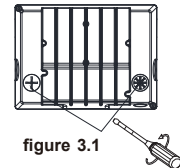

figure 3.1
- Step 1: Open the metal plug and plastic plug counter (figure 3.1), then slide the switch up and down to connect to the CCT controller or photocell controller in your system.